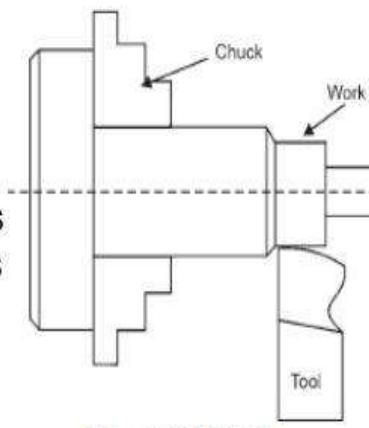

Fig. 4: Step turning
- It is an operation of producing various steps of different diameters in the workpiece, as shown in Fig.4 This operation is carried out in the similar way as plain turning.